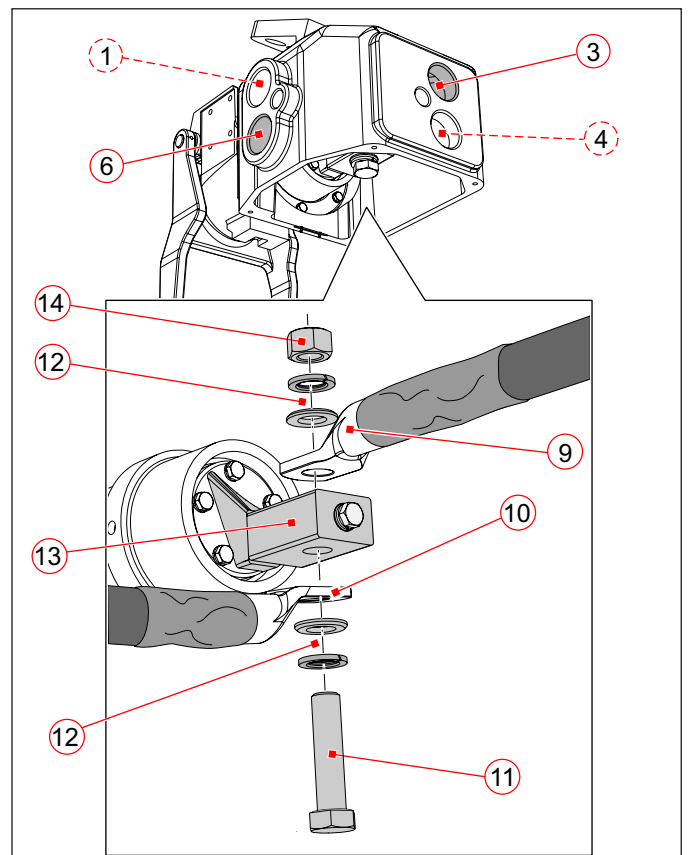

Fig. 11: Cable connections 1x lateral, 1x at the back, vertical
Connection 1x lateral, 1x at the back, vertical (Fig. 11)
► For connection type 1x lateral (6), 1x at the back (3), connect the cables according to **Fig. 11** with screw (11) and washers as well as spring lock washers (12) and nut (14) to the connecting piece (13).